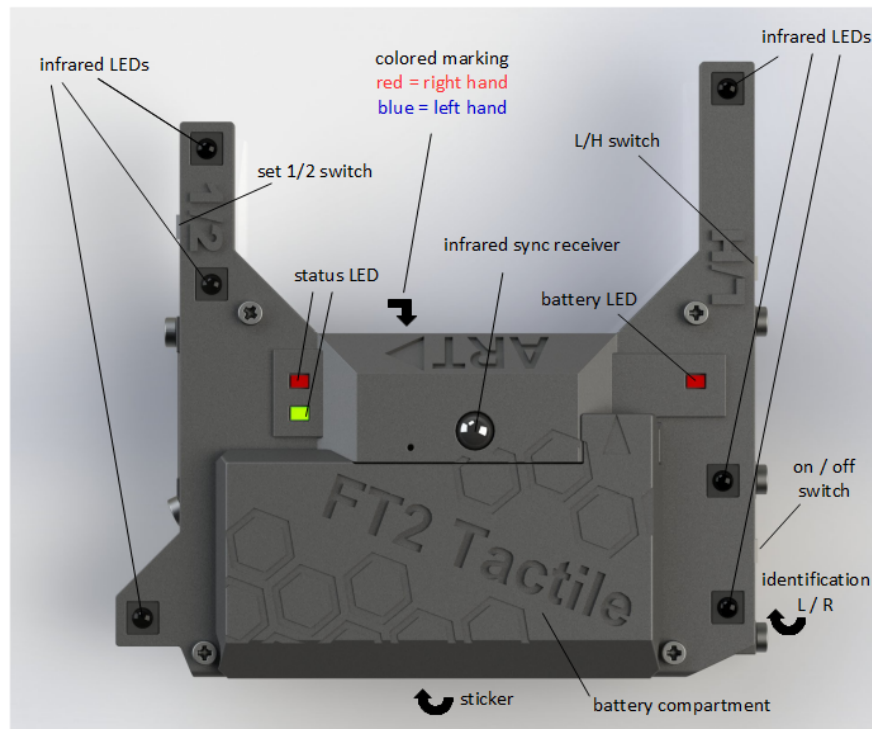

Figure 5.36: *Fingertracking2* and *Fingertracking2 Tactile* hand target
- a hand target unit for fixing on the back of the hand with IR LEDs (active markers) for tracking (see figure 5.36 on page 98).
The black sphere on top of the *Fingertracking2* & *Fingertracking2 Tactile* hand targets is a receiver for the coded IR flash (i.e. modulated infrared signal) which is used for synchronization (see figure 5.36 on page 98). This coded signal can be generated by all *ARTTRACK* cameras (*DTRACK3* is required). In some cases (discontinued products) an